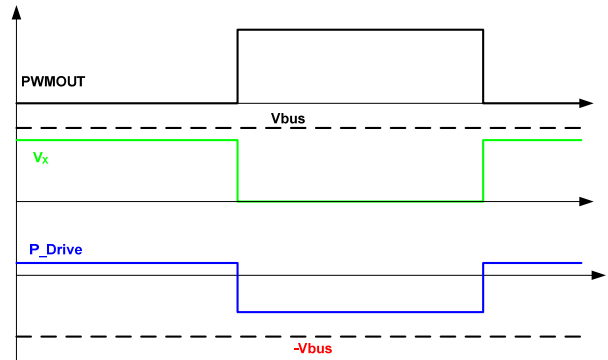
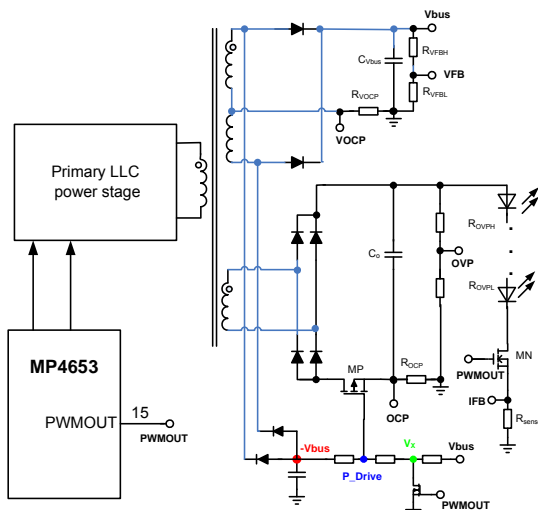

Figure 5B—Scheme of the PWMOUT Driving the P_MOS
Figure 5A—PWMOUT for the P_MOS Driver
The PWMOUT signal is also used to control the external P-MOS (MP) for protection, as shown in figure 5A. Figure 5B shows the operating scheme of this driving circuit. A negative voltage source (-Vbus) is generated from the secondary winding of DC bus stage. A pulse waveform at “V_X” is generated through the PWMOUT signal. By summing the negative voltage source and V_X, a pulse waveform with a negative magnitude is generated on “P_Drive” (the P-MOS gate) and is used to drive the P-MOS.